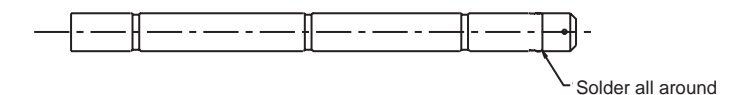

Figure 7
- d. Install copper replacement plug into inner conductor and solder all around. Make sure no gaps or voids are visible between mating copper surfaces, Figure 7.